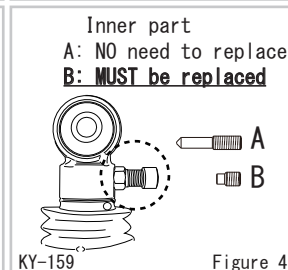

Figure 4
\* Replace set screws (Except some models / Refer to Figure 4).
**Take that out and replace it with the EDFC Hex Bolt that comes with EDFC5.** Such replacement might not be required for some types of shock absorbers with the click attached to the side as shown in Figure 4. Check the inner part shape to determine if such replacement is necessary or not. For details, please refer the procedures 2 and 3 on the next page.